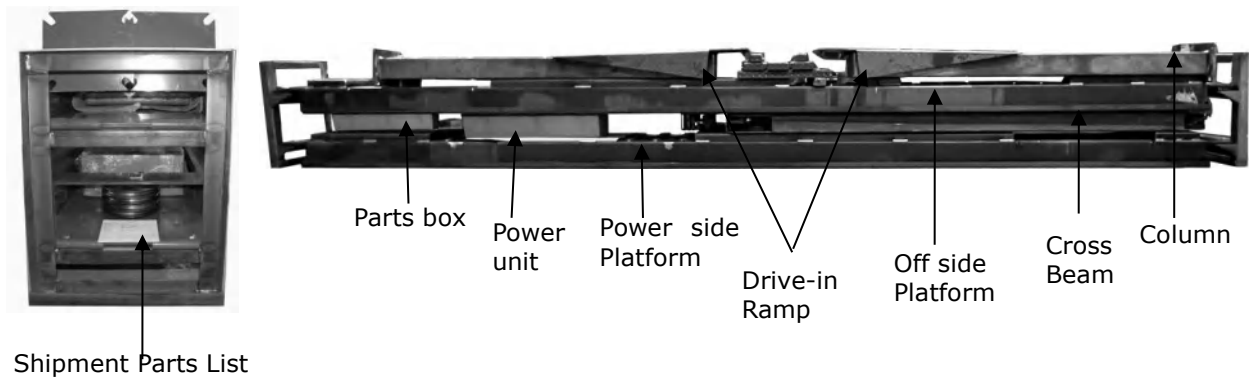

Fig.7
3. Open the outer packing carefully **(See Fig. 7).**